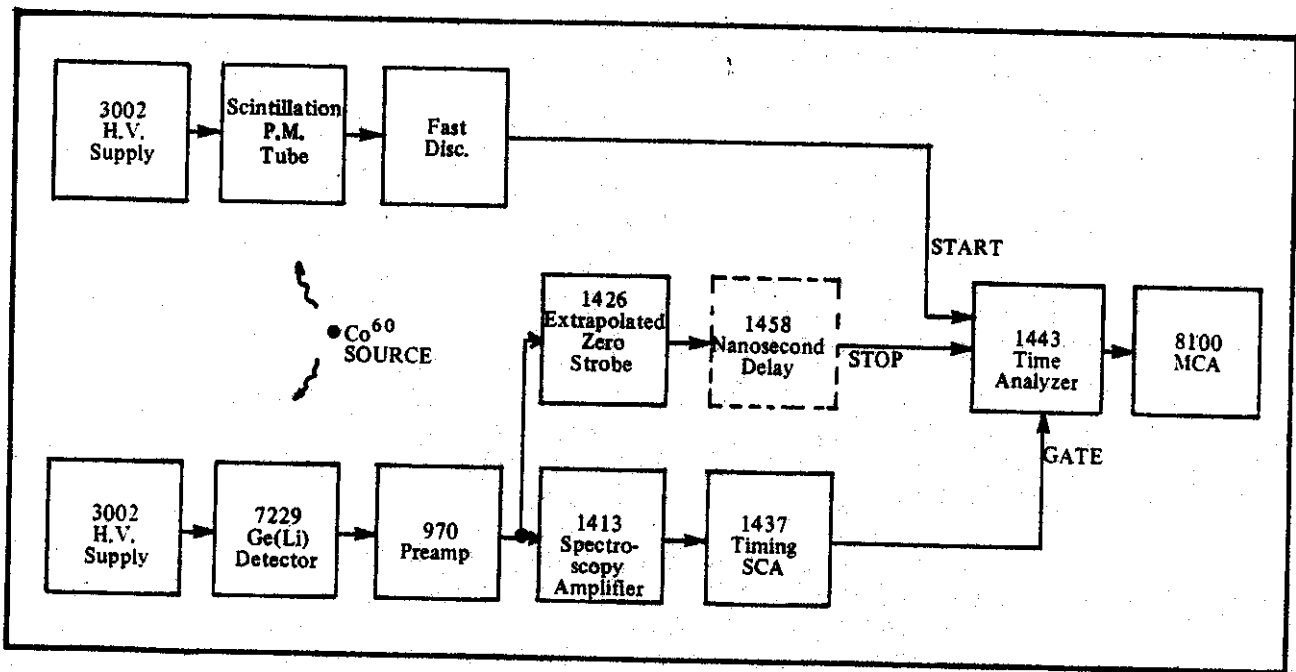

Figure 4-2. System Setup, Block Diagram.
1. Setup system as in Figure 4-2. Apply power to the P.M. Tube, Ge(Li) Detector and all modules.